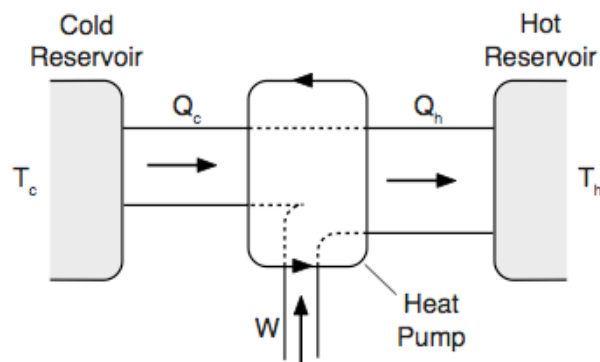
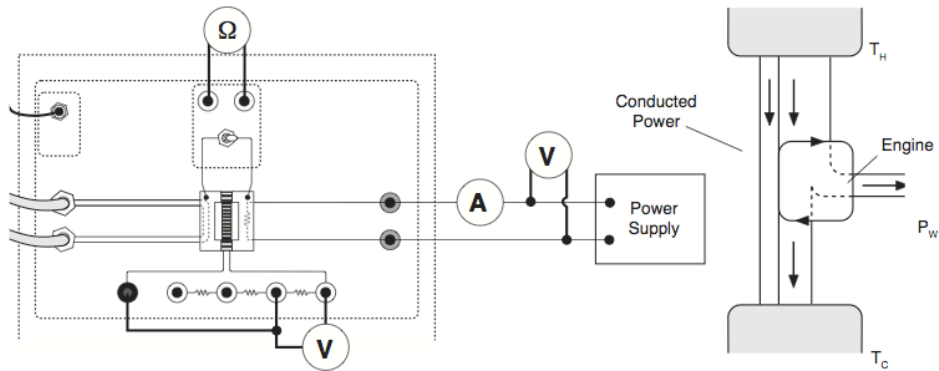
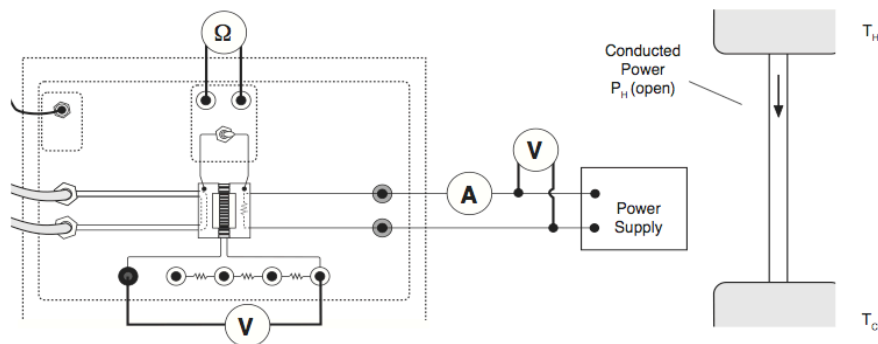

Figure 2: Heat Pump
Figure 4: Heat Engine with a load
Figure 6: No load
In the case of the Thermal Efficiency Apparatus, heat is pumped from the cold reservoir to the hot reservoir by running a current into the Peltier device in the direction opposite to the direction in which the Peltier device will produce a current. A heat pump is represented in a diagram such as Figure 2
Temperatures: The temperatures of the hot and cold reservoirs are determined by measuring the resistance of the thermistor imbedded in the hot or cold block. To do this, connect an ohmmeter to the terminals located as shown in Figure 4. The switch toggles between the hot side and the cold side. The thermistor reading can be converted to a temperature by using the chart located on the front of the Thermal Efficiency Apparatus. Notice that as the temperature increases, the thermistor resistance decreases (100 kΩ is a higher temperature than 200 kΩ). **NOTE:** To get the exact temperature reading you must interpolate between numbers on the chart.
device when an external load is applied. First run the Thermal Efficiency Apparatus with a load resistor (R) as in Figure 4.
Next, run the Thermal Efficiency Apparatus with no load, as in Figure 6.
The Thermal Efficiency Apparatus is run with a load connected to measure P_H (Figure 4) and then the load is disconnected and the power input into the hot reservoir is adjusted to maintain the temperatures (less power is needed when there is no load since less heat is being drawn from the hot reservoir). See Figure 6. $P_{H(\text{open})}$ is the power input to the hot reservoir when no load is present. Since, while there is no load, the hot reservoir is maintained at an equilibrium temperature, the heat put into the hot reservoir by the heating resistor must equal the heat radiated and conducted away from the hot reservoir. So measuring the heat input when there is no load determines the heat loss due to radiation and conduction. It is assumed this loss is the same when there is a load and the heat engine is operating.
Heat Pumped from the Cold Reservoir: When the Thermal Efficiency Apparatus is operated as a heat pump, conservation of energy yields that the rate at which heat is pumped from the cold reservoir, P_C , is equal to the rate at which heat is delivered to the hot reservoir, P_H , minus the rate at which work is being done, P_W (Figure 2). The work can be measured directly but the heat delivered to the hot reservoir has to be measured indirectly. Notice that when the heat pump is operating, the temperature of the hot reservoir remains constant. Therefore, the hot reservoir must be in equilibrium and the heat delivered to it must equal the heat being conducted and radiated away. So a measurement of the heat conducted and radiated away at a given temperature difference will also be a measurement of the heat delivered to the hot reservoir. The heat conducted and radiated is measured by running the device with no load and measuring the heat input needed to maintain the temperature of the hot side (Figure 6).
- Connect the 2Ω load resistor with a short patch cord as shown in Figure 4. Connect a voltmeter across the load resistor. The choice of the 2Ω load resistor is arbitrary. Any of the load resistances may be used.
- Disconnect the patch cord from the load resistor so no current is flowing through the load and thus no work is being done. Now all the power delivered to the heating resistor is either conducted to the cold side or radiated away. Leave the voltmeter attached so that the Seebeck voltage (V_S) can be measured. (see figure 6)
The Thermal Efficiency Apparatus is run with a load connected to measure P_H (Figure 4) and then the load is disconnected and the power input into the hot reservoir is adjusted to maintain the temperatures (less power is needed when there is no load since less heat is being drawn from the hot reservoir). See Figure 6. $P_H(\text{OPEN})$ is the power input to the hot reservoir when no load is present. Since, while there is no load, the hot reservoir is maintained at an equilibrium temperature, the heat put into the hot reservoir by the heating resistor must equal the heat radiated and conducted away from the hot reservoir. So measuring the heat input when there is no load determines the heat loss due to radiation and conduction. It is assumed this loss is the same when there is a load and the heat engine is operating.